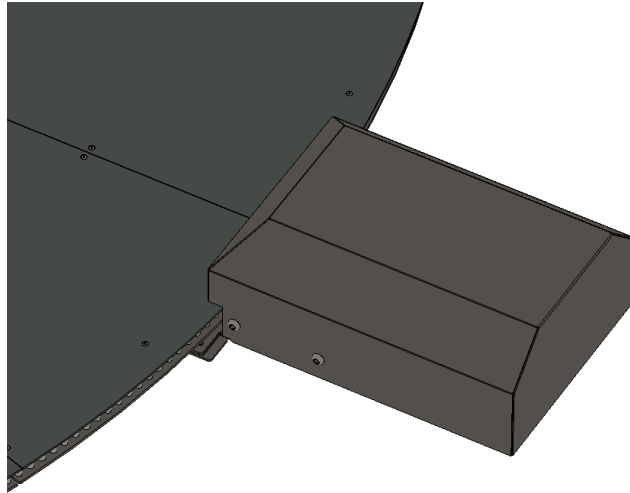

Figure 14: Motor cover installed
Step 12: Place the motor cover over the motor shown in figure 14 and secure in place with the four M8x12mm screws into the M8 standoffs on the motor mount. These screws are shipped from the factory attached to the motor mount. Torque the screws to 8 ft-lb. You may choose to omit this step and leave the cover off if the electrician is to perform the electrical connections to the motor.